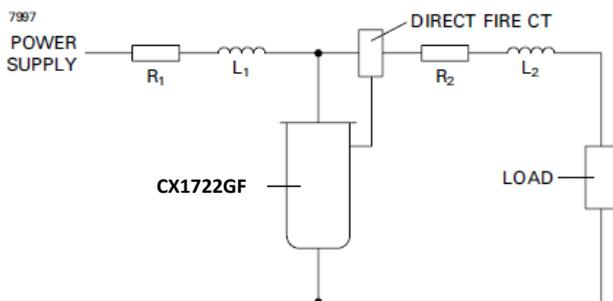

Fig. 2
R1 and R2 are surge limiting resistors. R1 should be equal to or greater than R2. In crowbar operation the thyatron is called upon to fire against a rapidly falling anode voltage. An analysis of the circuit in Fig. 2 above can be found in E2V Technologies Technical Reprint No. 122.
13. This maximum delay is obtained using a direct fire current transformer as shown in Fig. 2 above, at a low power supply voltage of 5 kV.